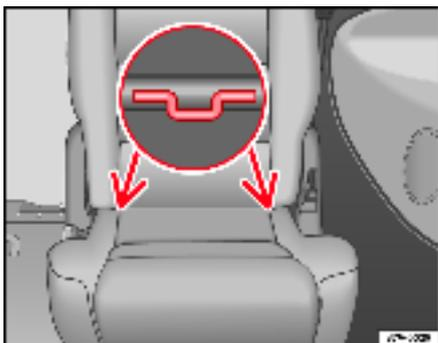

Fig. 33 Retaining rings for ISOFIX child seats in the frames of the outer seats in the second row of seats
- Press the child seat onto the ISOFIX retaining rings ⇒ fig. 33 (arrows) until the child seat can be heard to engage securely.